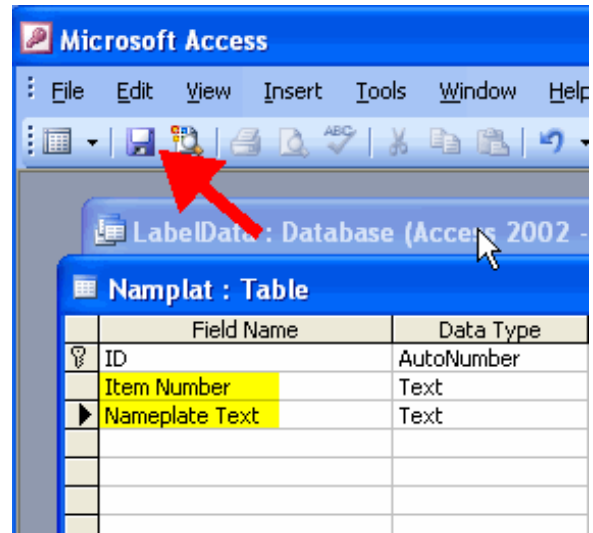

Figure 5-10b
5.2.21. Change the **Field Names** to match those in the original table, and change their **DataTypes** to **Text**. (Figure 5-10b)
5.2.22. Click [**Save**] and exit the table. (Figure 5-10b)